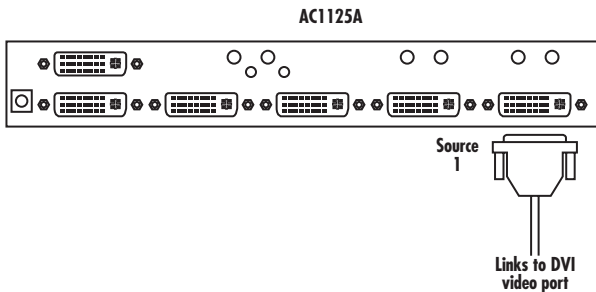

Figure 4-1. Attaching the source's DVI port to the switch's source 1 video port.
1. Connect the source's DVI video port to the switch's source 1 video port. See Figure 4-1.